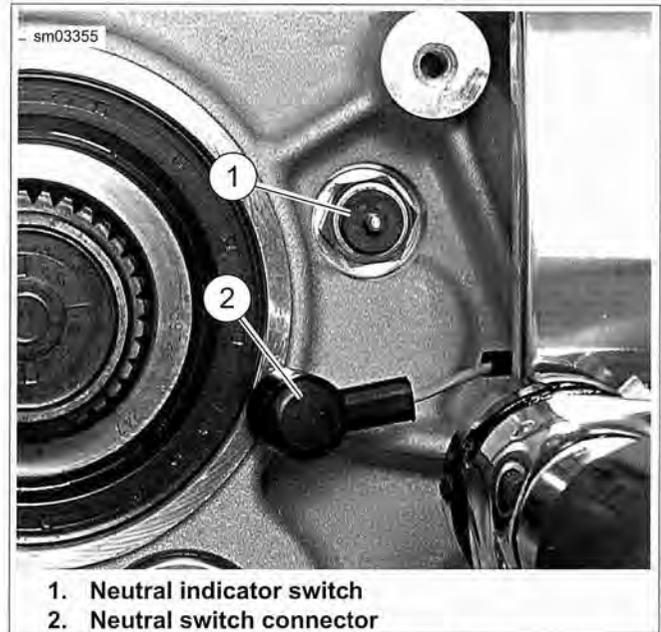

Figure 5-46. Neutral Switch and Connector
8. Place transmission in neutral. See Figure 5-46. Unplug neutral switch connector [131] (2) by pulling connector straight off neutral switch (1). Remove neutral switch and flat washer.